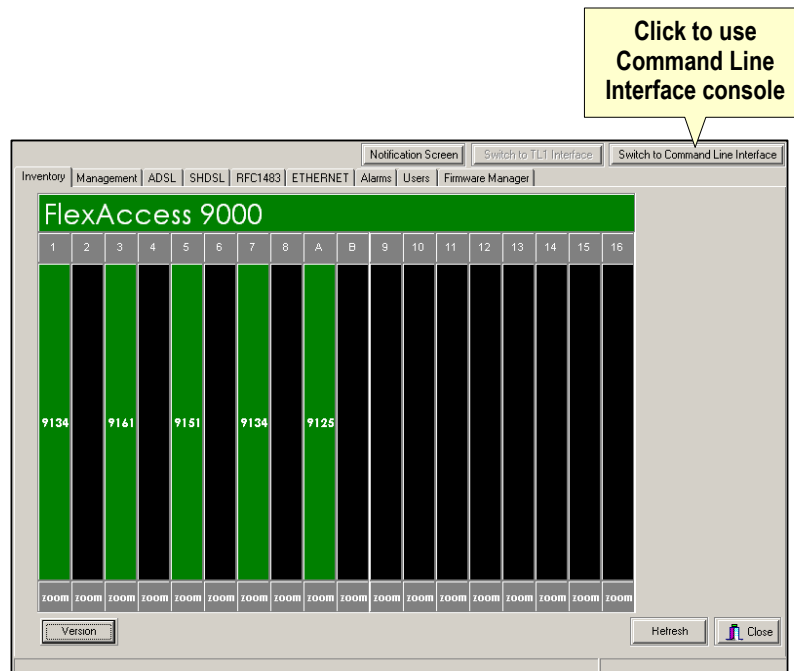

Figure 25 – ‘Switch to Command Line Interface’
- 1 From any **FASTCraft** tab screen, click **Switch to Command Line Interface** (Figure 25).